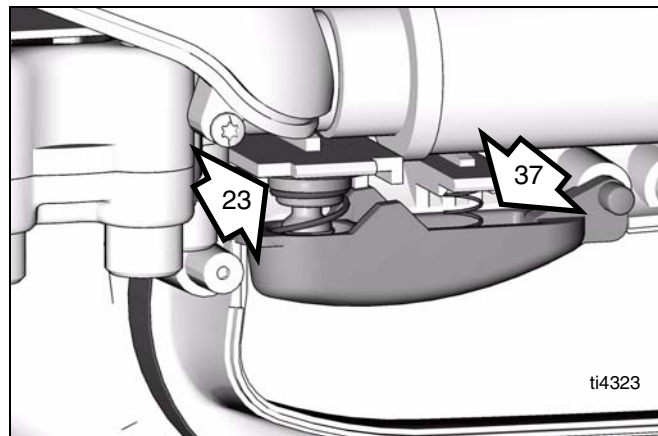

FIG. 36
15. Slide the trigger assembly (13, 14, 22, 23, 36, & 37) back onto the mounting peg on the right half of the meter (18). See FIG. 36.
Ensure that the circular trigger plunger (23) is centered with the trigger switch. Also ensure that the trigger spring (37) is securely slid into position. See FIG. 36.
19. Slide the trigger assembly (13, 14, 22, 23, 35, & 36) onto the mounting peg on the right side of the new meter half (18). See FIG. 36.